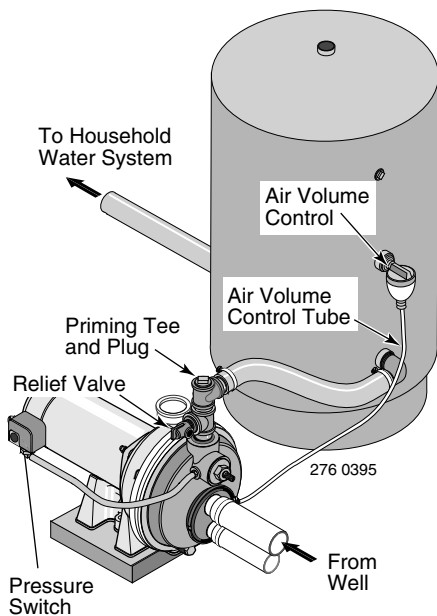

Figure 13: Standard Tank Connections
STANDARD TANK CONNECTION (Figure 13)
- Step 4. Remove the 1/8" NPT pipe plug from the pump Air Volume Control (AVC) port (see Figure 13). Run tubing from the pump's AVC port to the port on the AVC mounted on the tank. See instructions provided with tank and AVC for details.